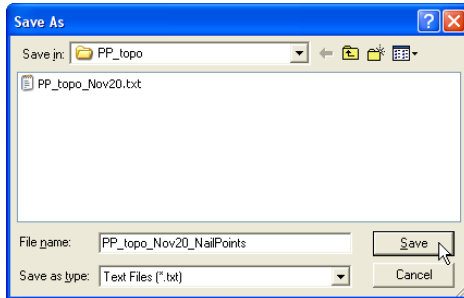

Figure 9-9. Save Control Point Information to a Text File
3. To save the information as a text file, click **File ► Save as**, enter a name and select a location for the file, then click **Save** (Figure 9-9).